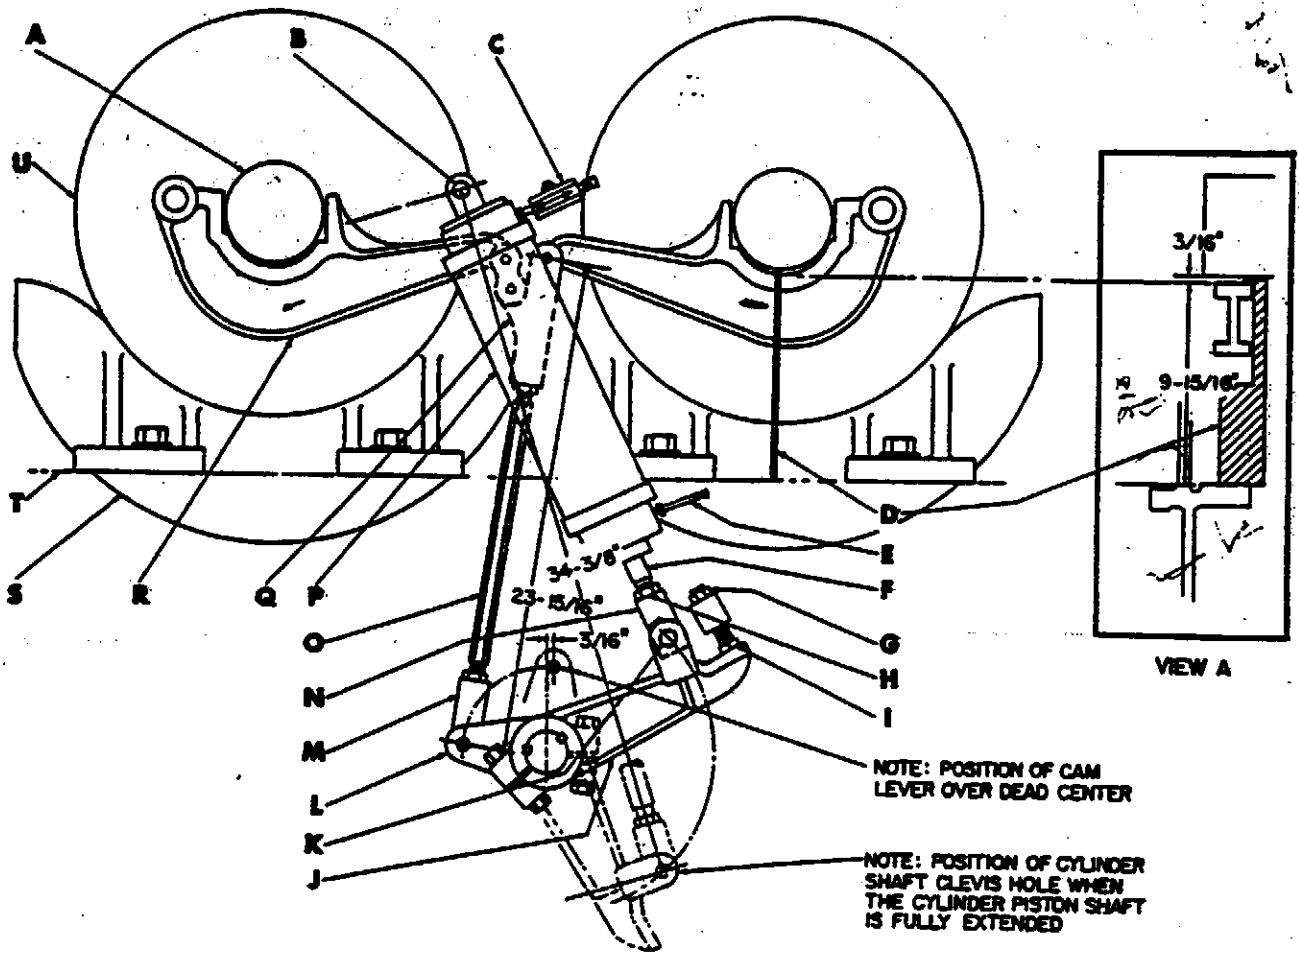

FIGURE 19
See figure 19.
5. After the cam lever over dead center setting has been checked the roll should be lowered and the clearance between the lifting arm socket and the roll shaft checked. This clearance should be approximately $3/16"$. Check this clearance by placing the padded roll adjusting gage (Special Tool No. 141-173*) as shown in the insert of figure 19. With the bottom of the gage on the shelf line (T), the upper lip should fit snugly over the lowest point of the lifting arm socket surface. This will assure a minimum clearance of $3/16"$ between the shaft roll and the lifting arm. If the gage lip cannot be inserted between the socket and the roll shaft, the cam stop (I) must be adjusted. Adjust this stop by loosening the stop jam nut (G) and turning the stop counterclockwise approximately one turn. Tighten the jam nut and repeat the lifting arm socket and roll shaft clearance check. Repeat the stop adjustment if required.